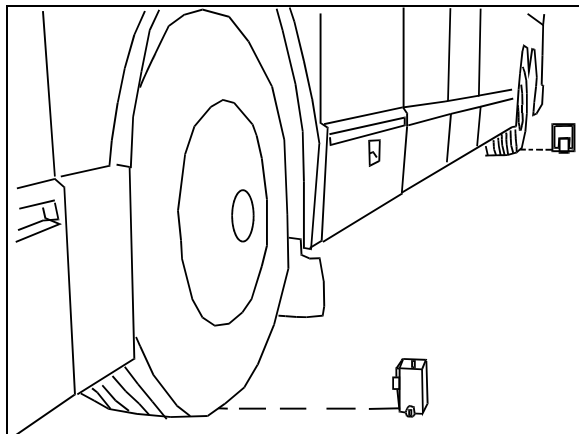

FIGURE 41: INSTALLING CALIBRATION FIXTURES 06497
7. Install a calibration fixture in the axis of front axle wheel and one in the axis of rear axle wheel (Fig. 41).